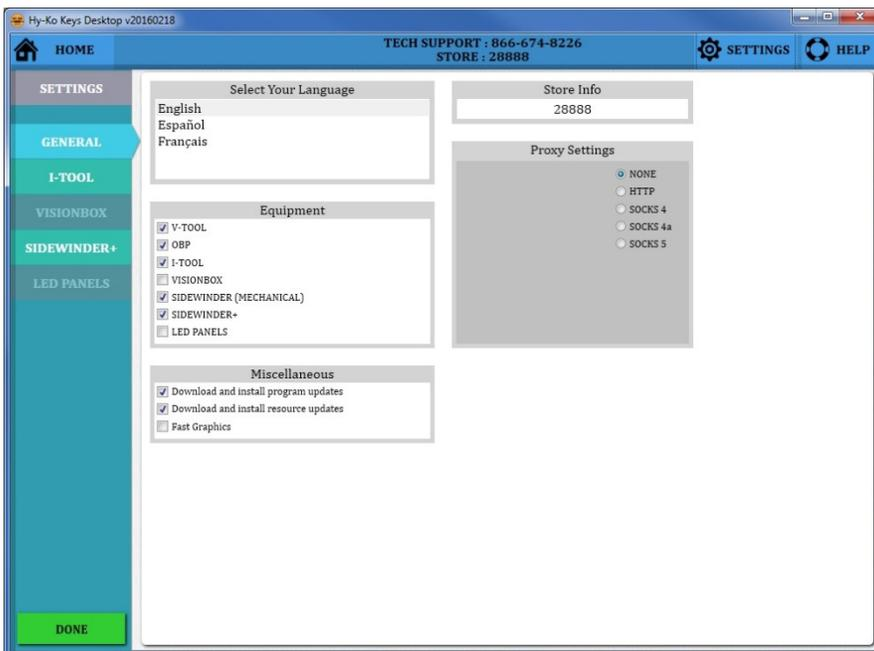

fig. 117
- The **'GENERAL'** tab allows you to change basic items such as language, store number, what equipment is used, proxy settings and automatic updates (see fig. 117).